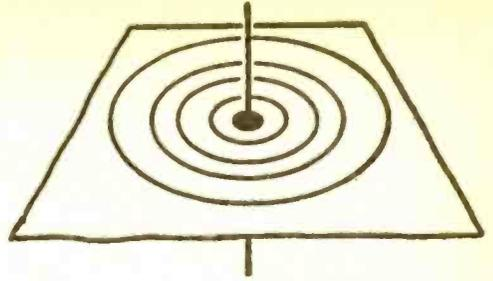

Fig. 24. The magnetic lines of force around a conducting wire is illustrated above.
**Electromagnetism.** Any electrical conductor through which flows an electrical current will generate a magnetic field about it which is perpendicular to its axis as shown in figure 24. The direction of this field is dependent upon the direction of current flow, and the magnetic field strength proportional to the current strength. If this current carrying conductor is wrapped into a coil, forming a solenoid, magnetic field will be increased each individual turn is added to the field due to the fact that the field generated by generated by the other turns in the coil. If an iron core is inserted in this current carrying coil the generated field will be increased still further. This is because the lines of